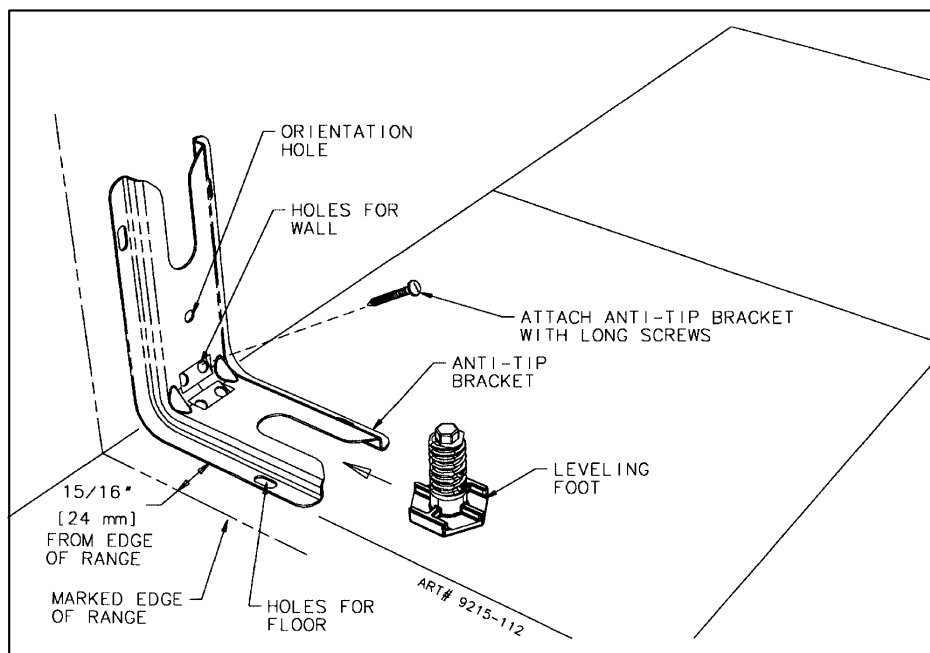
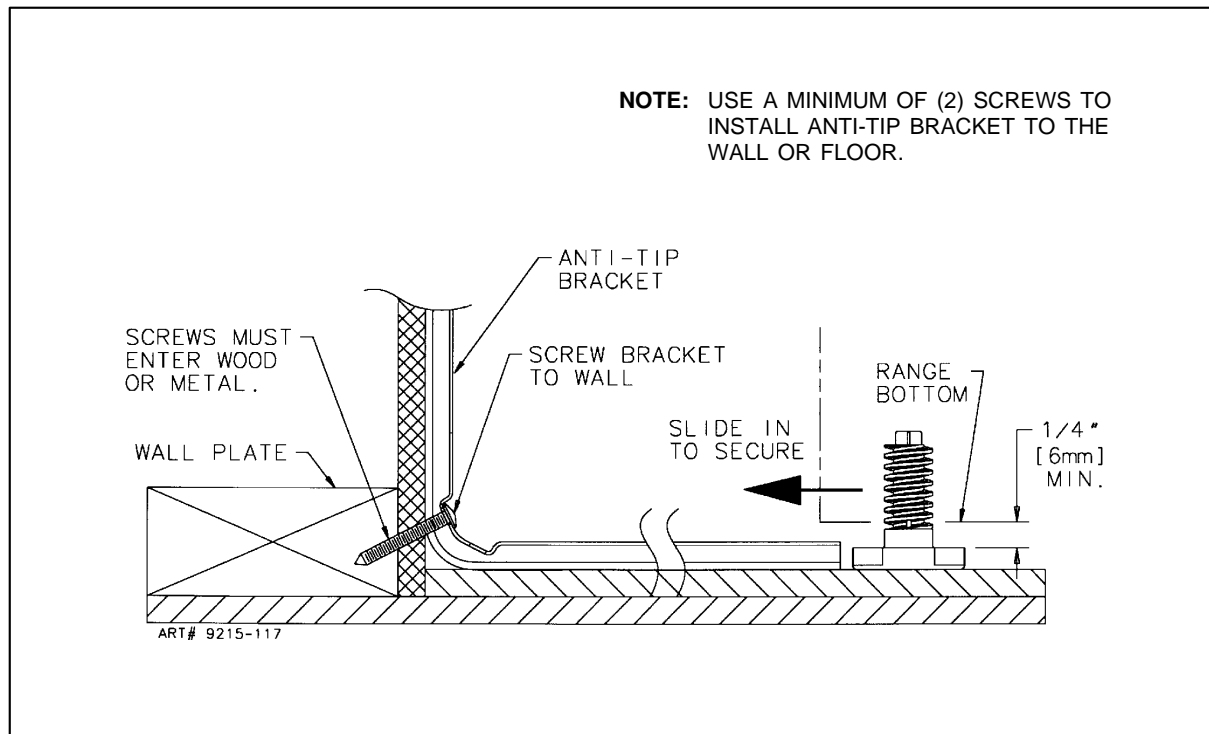

FIGURE 3
FIGURE 4
### **STEP 1 - Locating The Bracket** (See Figure 3)
- B. Place the BRACKET 15/16" (24 mm) from the marked "EDGE" toward center of opening and against the back wall, as shown in figure 3, with orientation hole against wall.
- C. Use the bracket as a template and mark the required holes, as shown in figure 3 for the type of construction you will be using.
1. Floor: Locate the center of the two holes identified in figure 3 as "HOLES FOR FLOOR". Drill a 1/8" (3 mm) pilot hole in the center of each hole (a nail or awl may be used if a drill is not available). Secure the ANTI-TIP bracket to the floor with the two screws provided. Proceed to Step 3.
2. Wall: Locate the center of the two holes identified in figure 3 as "HOLES FOR WALL". Drill an angled 1/8" (3 mm) pilot hole in the center of each hole as shown in figure 4. (A nail or awl may be used if a drill is not available). Secure the ANTI-TIP bracket to the wall with the two screws provided as shown in figure 4. Proceed to STEP 3.
1. Suitable screws for concrete construction can be obtained at the hardware store. Drill the required size hole for the hardware obtained into the concrete at the center of the holes identified in figure 3 as "HOLES FOR FLOOR". Secure the ANTI-TIP bracket to the floor. Proceed to STEP 3.
- B. Align the range to its designated location and slide it back into position. Note: A minimum clearance of 1/4" (6 mm) is required between the range and the leveling foot that will engage the ANTI-TIP bracket, see figure 4.